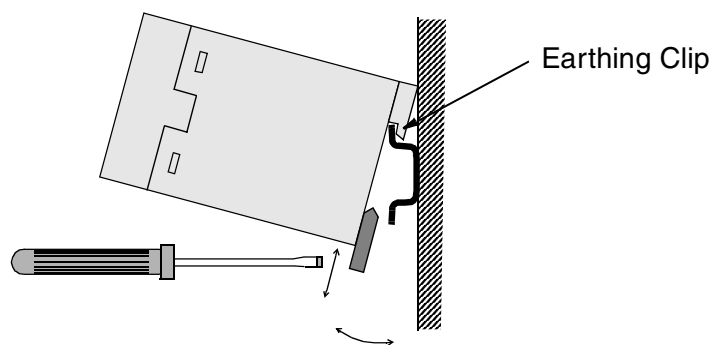

Figure 3-2 Mounting and removing the module.
- Module earth is connected to the mounting rail by means of an earthing clip (see Figure 3-2 below). The mounting rail onto which the module is to be mounted must be earthed to a noiseless earth. If the rail is not mounted on a properly earthed base, a separate earthing conductor must be used. The conductor must be as short as possible and the cross-sectional area must be 6 mm^2 at least.
3. Push the module onto the rail. The module can be released by pulling the locking spring with a screwdriver (see Figure 3-2).
7. Push the module onto the rail. The module can be released by pulling the locking spring with a screwdriver (see Figure 3-2).